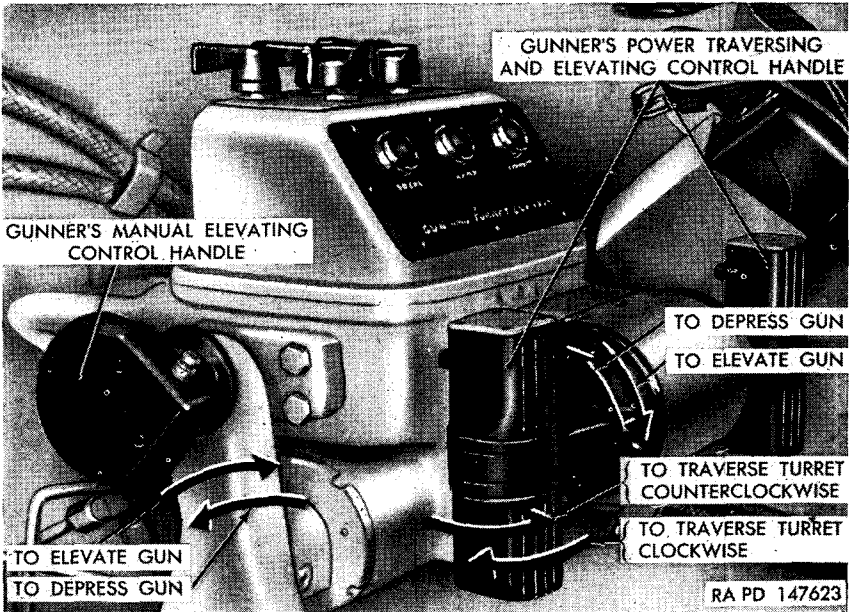

Figure 23. Operation of gunner's controls.
b. **OPERATING TO TRAVERSE THE TURRET.** To traverse the turret clockwise, turn the handle toward the right from neutral; to traverse the turret counterclockwise, turn the handle toward the left from neutral (fig. 23). The amount the handle is turned away from the neutral position regulates the rate at which the turret traverses.
c. **OPERATING TO ELEVATE OR DEPRESS THE GUN.** To elevate the gun, turn the top of the handle away from neutral toward the gunner (fig. 23). To depress the gun, turn the top of the handle away from the gunner. The amount the handle is turned away from the neutral position regulates the rate at which the gun is elevated or depressed.
The gunner's manual traversing control handle (fig. 23) is located above and to the right-front of the gunner's seat. To manually traverse the turret, squeeze the release lever on the handle; then rotate the handle in the desired direction while holding the lever in the re-